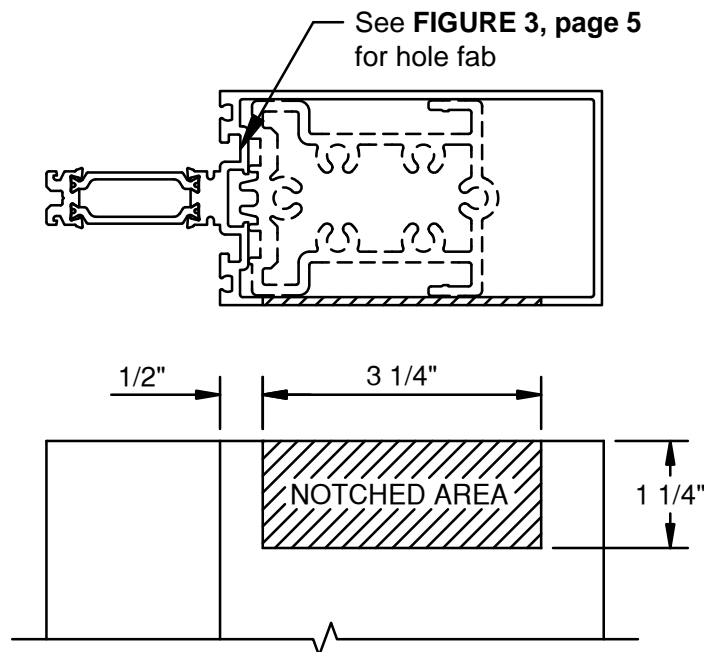

FIGURE 6
NOTE: Last bay intermediate horizontals must be notched. SEE FIGURE 6.
- 2.1.8 Install lower verticals plumb and level, ensuring proper spacing out from floor slab or beam. Place shims under vertical mullion at sill to evenly distribute deadload from wall. NOTE: Last bay intermediate horizontals must be notched. SEE FIGURE 6.